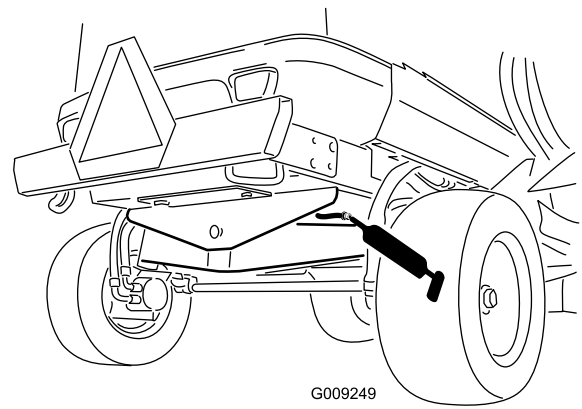

Figure 79
- 1 rear axle-pivot bushing (Figure 79)